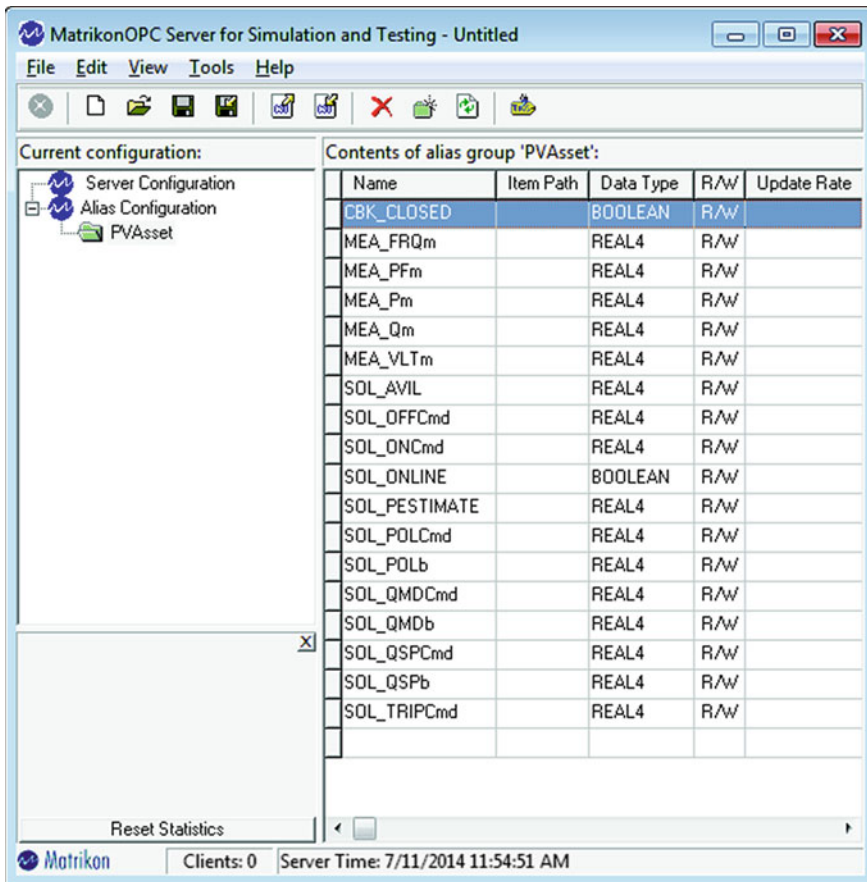
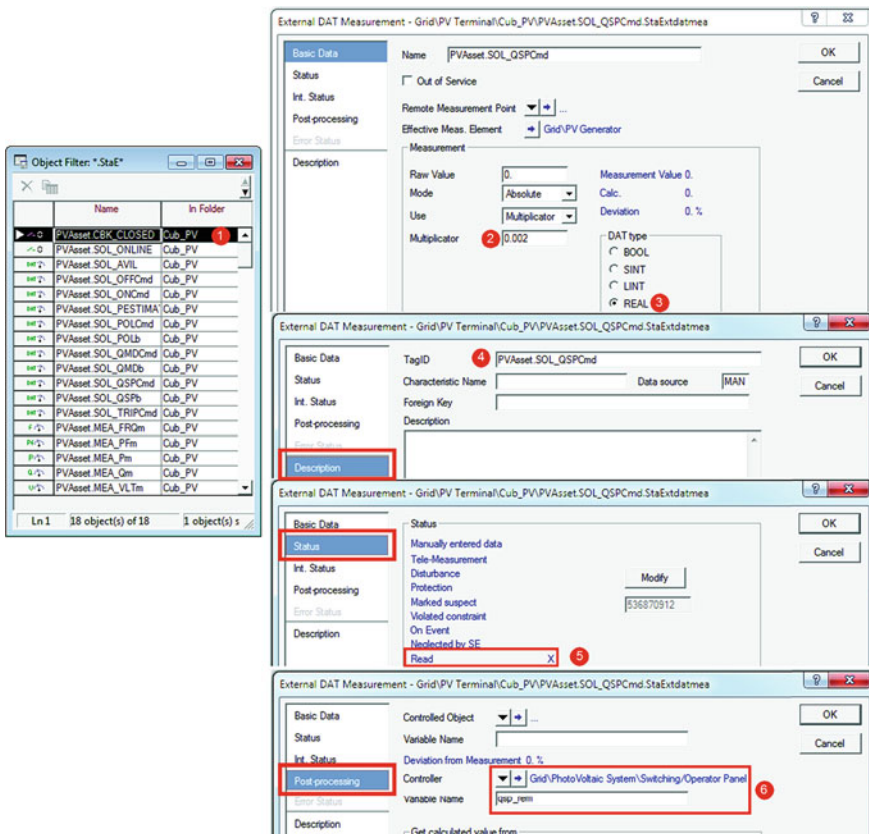

Fig. 16.6 OPC server screen showing the imported group and tag names
Fig. 16.8 Configuring an external data measurement object
- Observe that under alias configuration node, there is now a new group named “*PVAsset*,” which in turn has all the tags defined as shown in Fig. 16.6.
In the given sample, alias group name is “PVAsset” (see Fig. 16.6). So in order to create an external measurement object that reads in reactive power set point, the tag should have an ID as “PVAsset.SOL_QSPCmd” (marked ❶ in Fig. 16.8). Note that tag ID is configured in the *description* tab of the external measurement object’s edit window. Also in the given sample, each external measurement object is named by its tag ID for easy identification.
- **Read/Write Status:** The read/write status of the measurement object tells whether the tag is configured to read in data from the server or to write data to the server. The example shown in Fig. 16.8 (marked ❷) is reading from the server (MVA set point)
- **Multiplicator:** This is a constant (marked ② in Fig. 16.8) with which the data get multiplied when the data are read from the server. (In the case where data are written into the server, the data are divided by this constant.) In the demo, the PV source has a power rating of 500 kVA. The dynamic model understands the set point in terms of per unit value. This multiplicator ($1/500 = 0.002$) ensures that the user set kVAr is converted into equivalent per unit value before being consumed by the model
- **Post-processing:** This configuration (marked ③ in Fig. 16.8) tells the measurement object where to deliver the data if it is reading from server or where to gather data if it is writing data to the server.